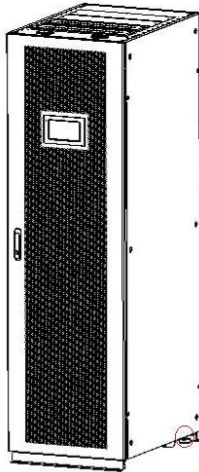

Fig. 3-3 Upward adjustment of leveling feet
**Step 7:** Turn the wrench counterclockwise to raise the four leveling feet at the bottom of UPS until all the four wheels at the bottom of the case are evenly landed and the leveling feet are completely suspended. See Fig. 3-3.